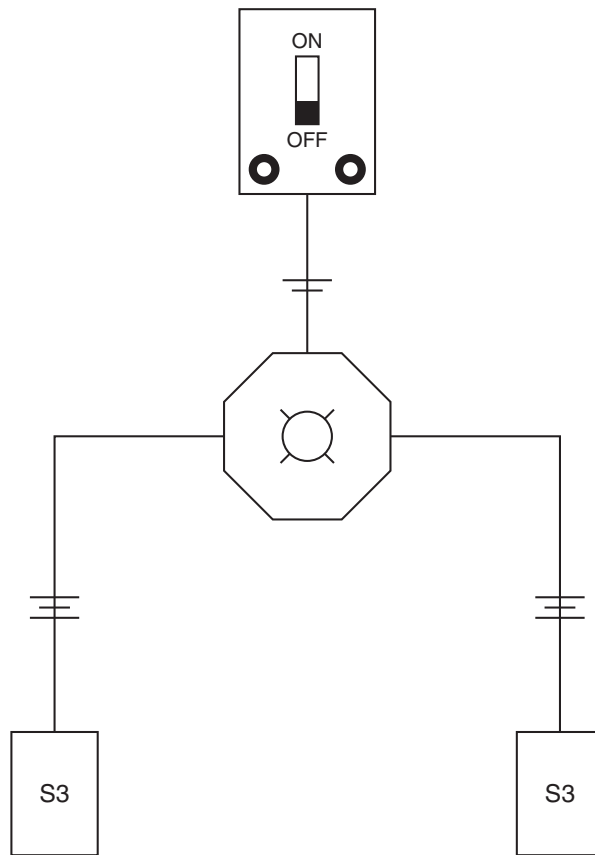

Figure 8-26 Third circuit for connection.
11. Reposition the two- and three-conductor cables as shown in Figure 8-26.